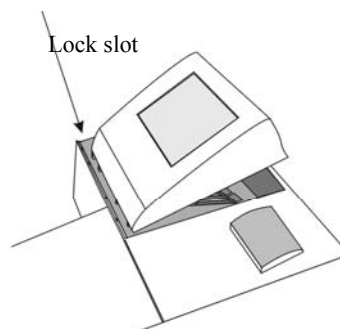

Figure 2-3-2
- (2) As Figure 2-3-2, insert the screen into the main body. Block the lock slot in front of the screen to the corresponding fix site on up-shell of the main board, then make the corresponding site of the site-limiting card behind the screen, and push the up-shell of the main board.